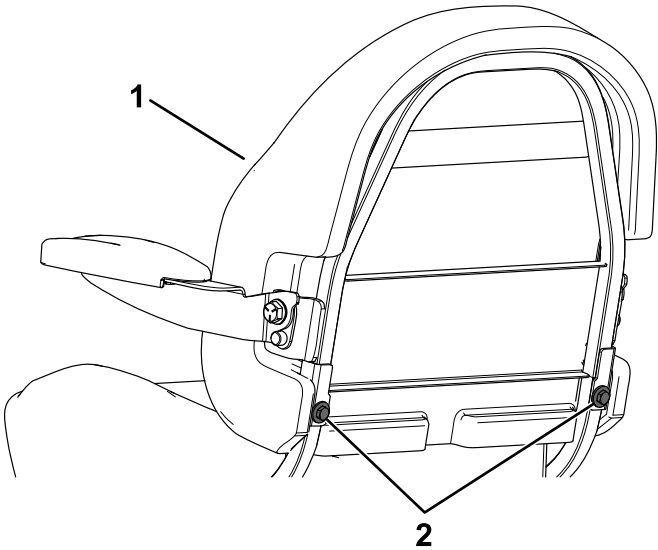

Figure 1
2. Secure the seat back using 2 flanged-hex bolts (Figure 1). Torque the bolts to 24 N·m (18 ft·lb).